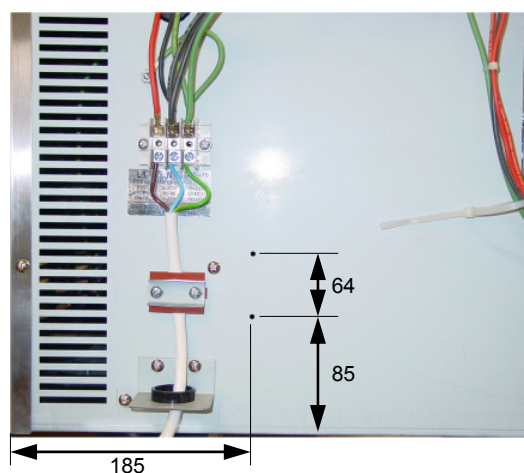

Figure A.1
- 2) Mark and drill 2x $\varnothing 3.5$ mm holes as per figure A.1.